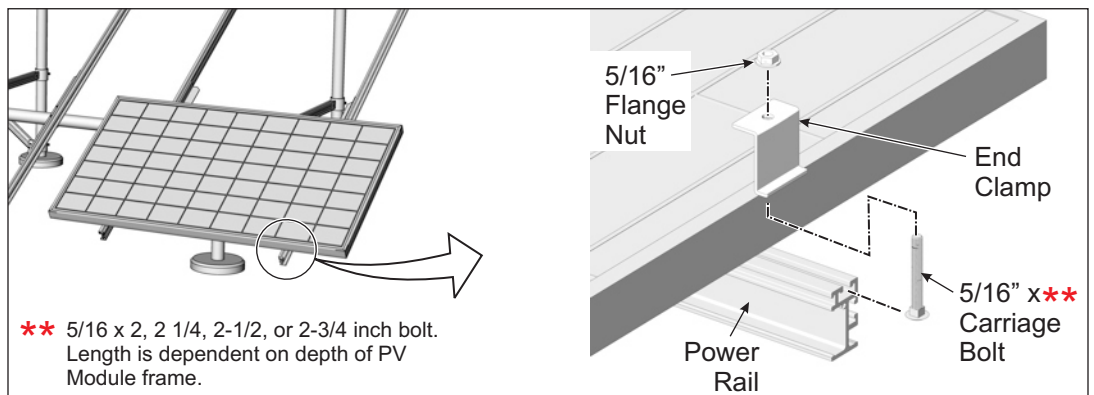

Figure 7-3: Installing PV Modules using Standard End-Clamp
Insert one 5/16” x 2, 2-1/4, 2-1/2, or 2-3/4” carriage bolt into the top slot of the Power Rail. Push the bolt until flush with edge of module frame. Position end clamp with hole facing upwards and center hole over bolt. Seat end clamp over bolt flush with module frame. Thread 5/16” flange nut onto clamp and tighten. When desired alignment is obtained, tighten the nut and end clamp. **Torque End Clamps to 14-16 ft.-lbs.** (See Figure 7-3)
- B3. For use with “**RAD Hardware**”. The process is much the same as in step B2. The difference is that RAD bolts can be inserted anywhere along the run of the Power Rail, not just the ends of the rail as shown in Figure 7-3.